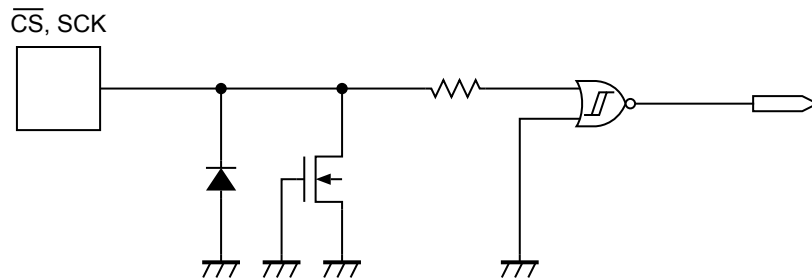

Figure 22  $\overline{\text{CS}}$ , SCK Pin
**Figure 22** and **23** show the equivalent circuits of input pins in the S-25C320A/640A. A pull-up and pull-down elements are not included in each input pin, pay attention not to set it in the floating state when you design.